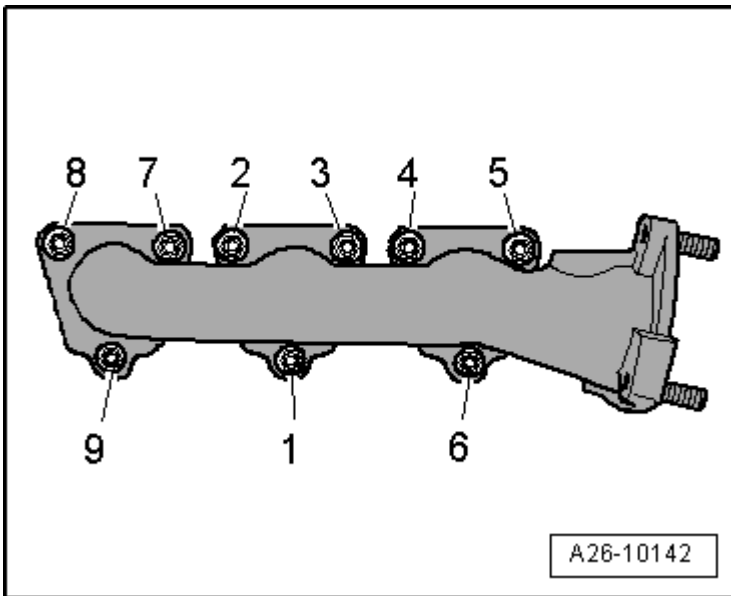
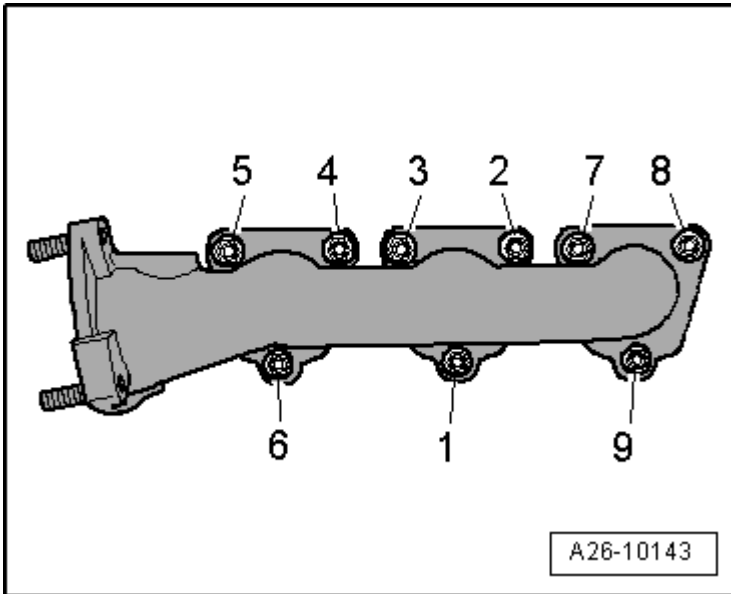

Fig. 4: Identifying Exhaust Manifold Tightening Sequence
Fig. 5: Identifying Exhaust Manifold Tightening Sequence
- Tightening specifications and sequence: Left, refer to **Fig. 4**, right, refer to **Fig. 5**